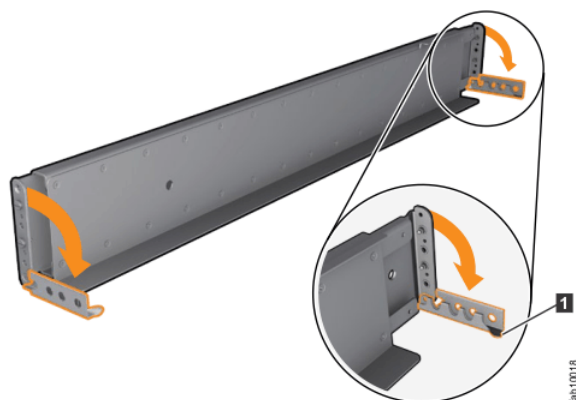

Figure 33. Opening the hinge brackets
6. At each end of the rail, grasp the tab **1** and pull *firmly* to open the hinge bracket (see Figure 33 on page 72).